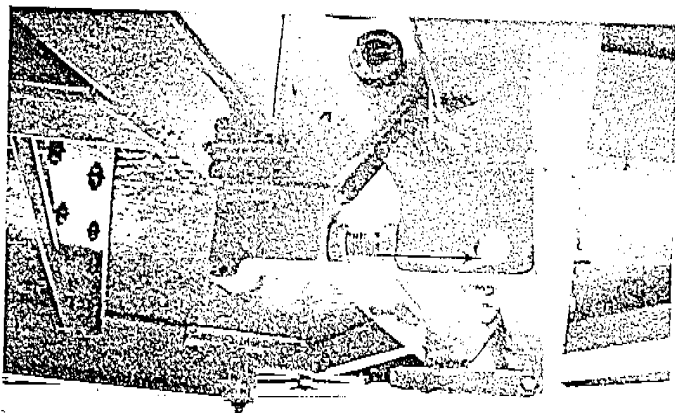

Fig. 53
- NOTE:** Four clamps for both sides (8 total) are stored in the tool box. Working under the platform, install the eight hinge clamps to the fastening ears on the large rotating platform sections. (Fig. 53)